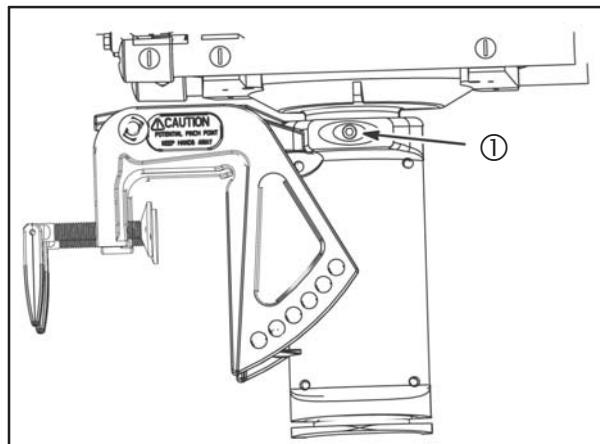

Fig. 20 – Steering Tension Adjustment
1. Steering tension is adjusted with a set screw (Figure 20) ① on the left side of the mid-section that applies pressure to a friction pad. Tighten the steering (increase steering effort) by turning the set screw clockwise; loosen (reduce steering effort) by turning the screw counterclockwise.